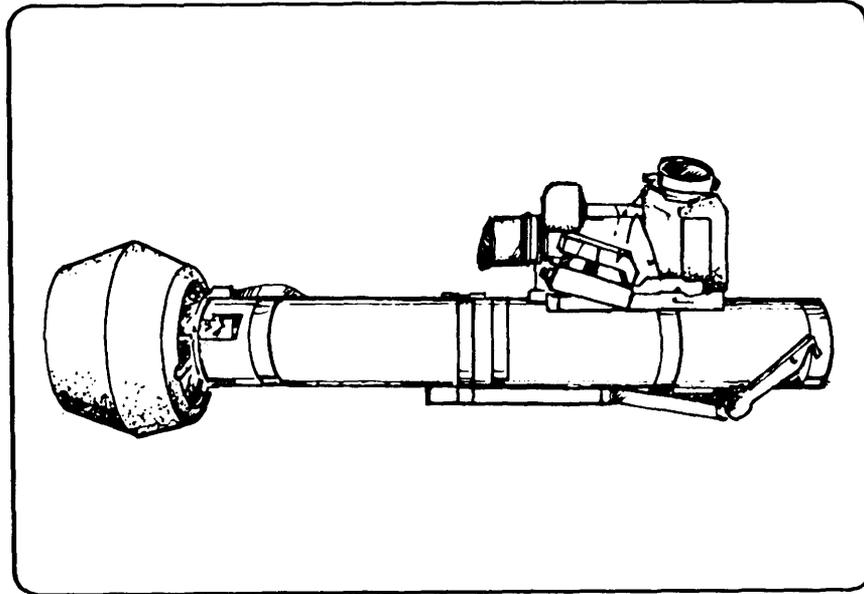

Figure 7-7. Prone firing configuration.
(1) The round is ready to fire with the biped collapsed, the tracker mounted, and the front shock absorber removed. (Figure 7-7).
(2) Place the body at a 90-degree angle to the launcher to remain outside the backblast area.
(3) Lay the launcher across the right bicep with the biped on top of the bicep. Encircle the round with the right arm so the right hand can grasp the firing mechanism.